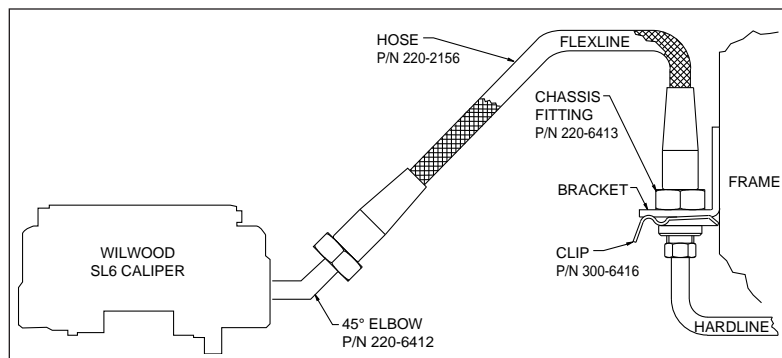

Figure 4. Brake Line Diagram
•**NOTE:** The caliper in this brake kit utilizes a 1/8-27 NPT pipe thread inlet. OEM rubber brake hoses generally cannot be adapted to Wilwood calipers. Wilwood offers a brake flex line hose kit to fit this application, order P/N 220-9100, Figure 4. Hose kit includes hoses, fittings, etc., all in one package for this application. **Carefully route hoses to prevent contact with moving suspension, brake or wheel components.** **NOTE:** Wilwood hose kits are designed for use in many different vehicle applications and it is the installer's responsibility to properly route and ensure adequate clearance and retention for brake hose components.